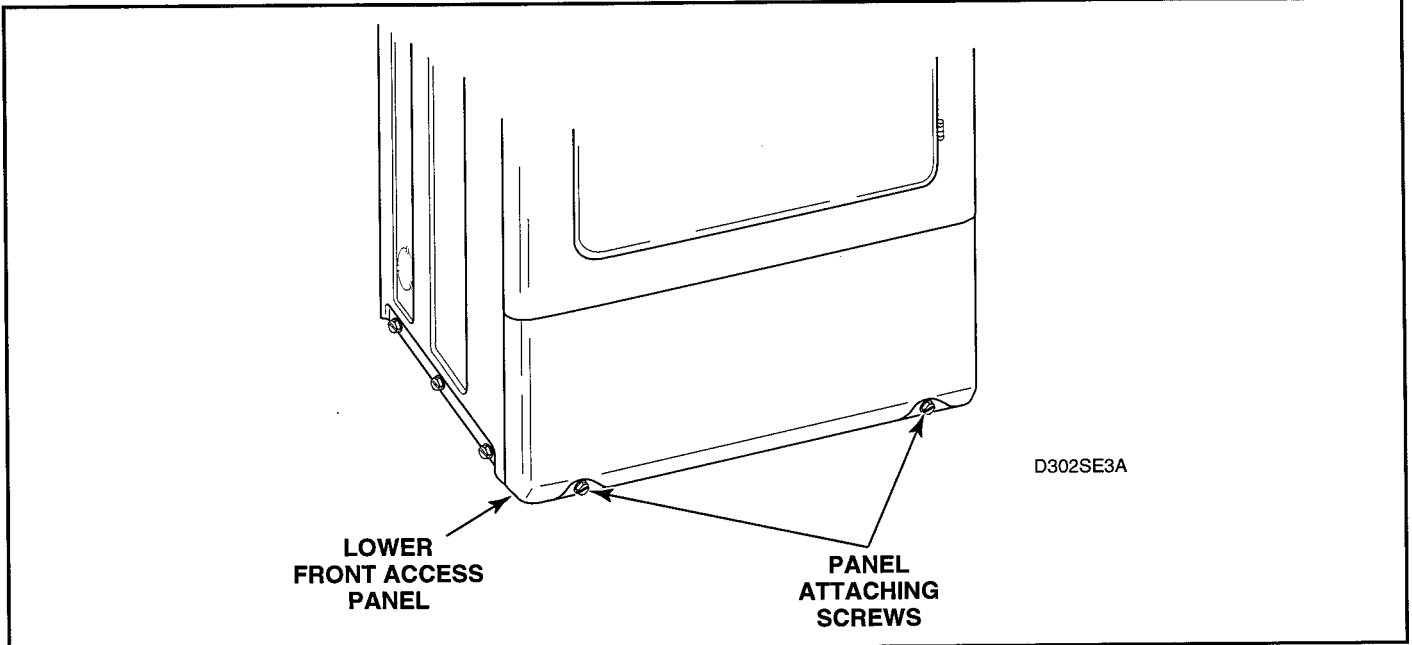

Figure 7-4
- While supporting the lower access panel, remove two screws from bottom edge of lower access panel. See figure 7-4.
- a. While supporting the lower access panel, remove two screws from bottom edge of lower access panel. See figure 7-4.